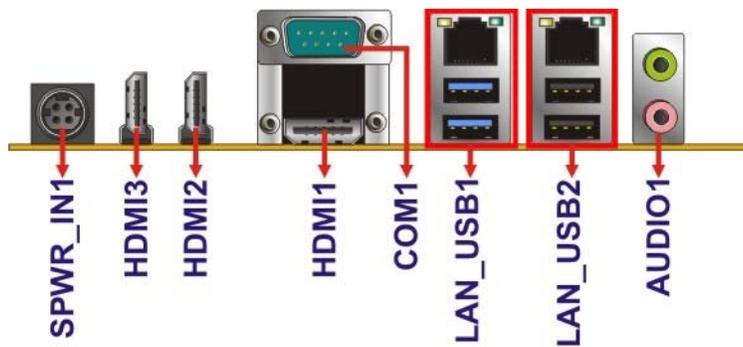

Figure 3-34: External Interface Connectors
- CN Location:** See **Figure 3-34**
CN Location: See **Figure 3-34**